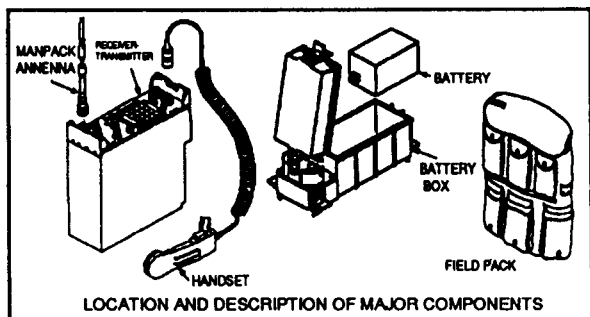

Figure 4-7. Radio set, AN/PRC-119.
**AN/PRC-119.** This is a manpacked version of SINCGARS which weighs about 20 pounds and can be carried in an all-purpose lightweight individual carrying equipment (ALICE) pack. See Figure 4-7. It is powered by a 13.5 volt lithium battery. The battery has an average life span of 12 hours (at 70° F when used with an RT ratio of 1 to 9). The average life span for the battery with the new RT-1523A/B is 26 hours. The AN/PRC-119 does not include a power amplifier and therefore has a planning range of 5 to 10 kilometers when used in the high RF position.